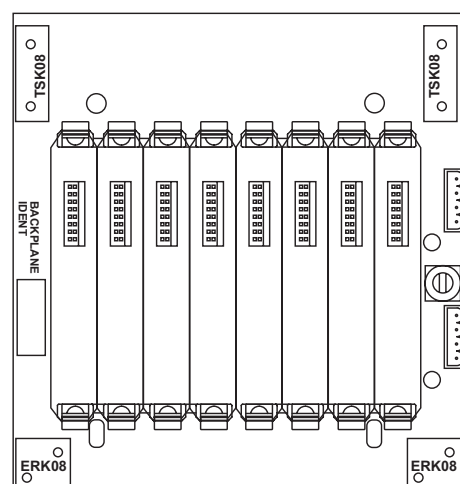

Figure 4.6: Backplane layout showing locations for labels and attachment of accessories
- a) Attach a suitably marked label to the area marked BACKPLANE IDENT. to identify an individual backplane. See Figure 4.6.